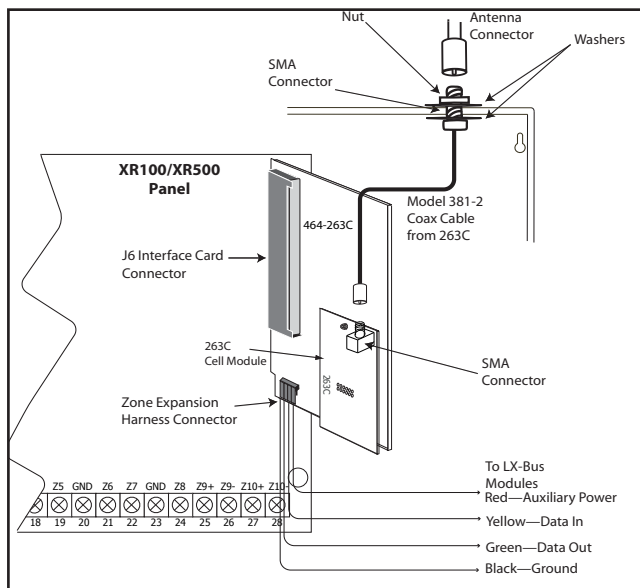

Figure 1: 464-263C CDMA Wiring
See Figure 1.
3. Attach the included 383 Antenna to the SMA connector. See Figure 1.
4. Attach the opposite end of the 381-2 Coax to the SMA connector on the 464-263C. See Figure 1.